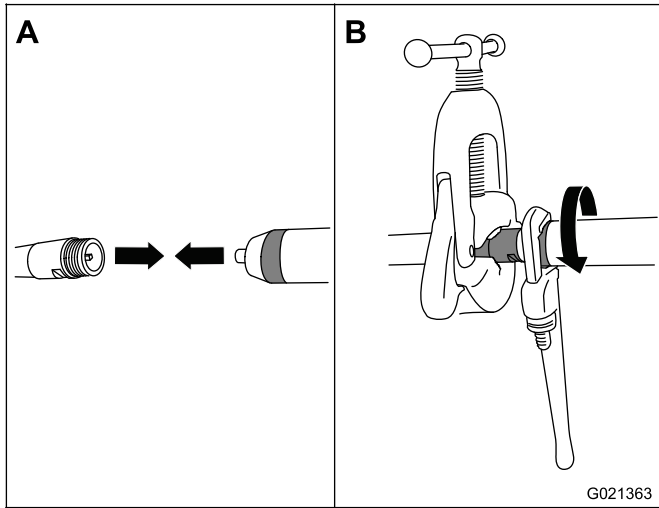

Figure 5
1. Hold the threaded end of the shaft in a pipe vise, and coat the threads of the shaft with a thread sealant to prevent water from entering the head (Figure 5).